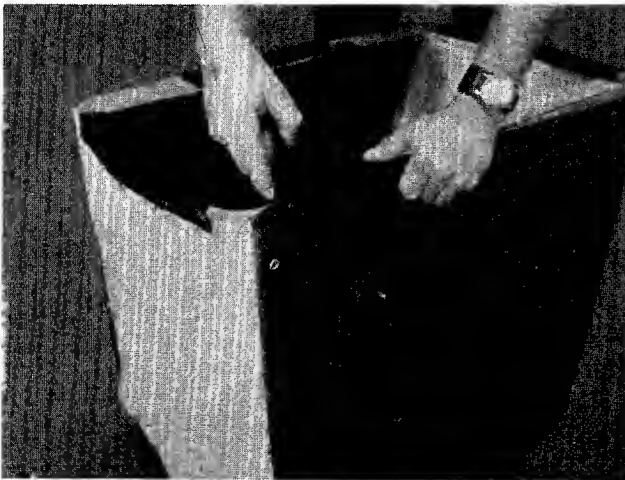

FIGURE 9.
3. Slip the grass bag over the catcher frame. Snap the plastic edge of grass bag over frame. See figure 9.